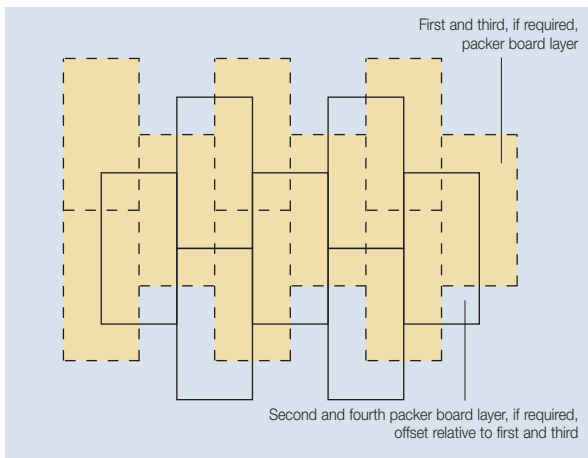

Figure 9 Offsetting of Multiple Packer Board Layers
- In all cases, the layers should be horizontally offset relative to each other so that, as far as possible, the board joints in any two adjacent layers do not coincide with each other (see Figures 9 and 10).